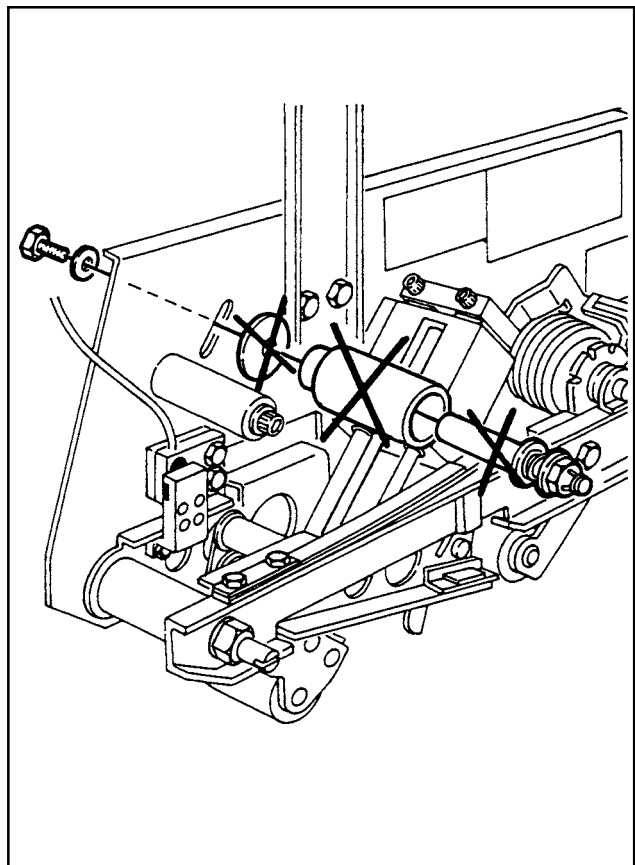

Figure 4
- Remove the 1/4-20 hex head screw that fastens the tension roller shaft to the taping head side plate, remove the tension roller/shaft assembly and discard. See Figure 4.